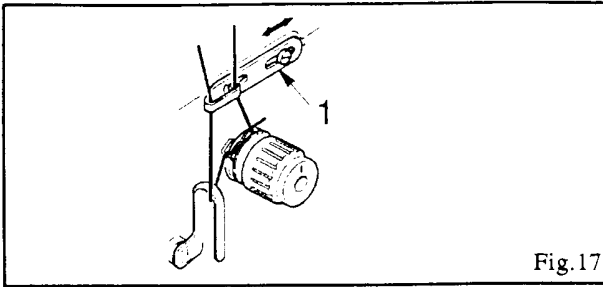

Fig.17
To obtain perfectly locked stitches depending upon the thickness of material or the length of stitch, it may be necessary to adjust the thread guard (1) either to the left or to the right as shown in Fig. 17.